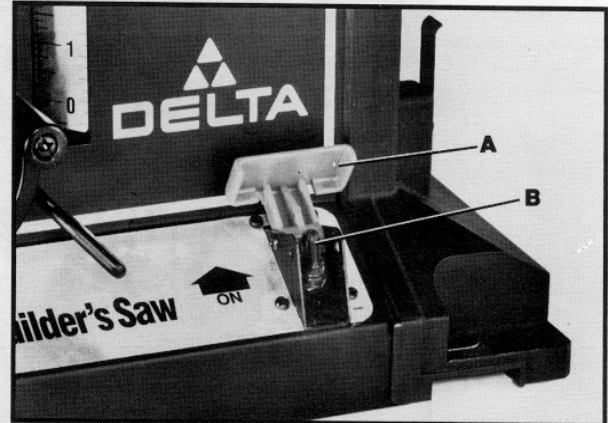

Fig. 23
2. Fig. 23, illustrates the switch trigger (B) in the "ON" position. Move the switch shield (A) down so that it rests on the switch trigger (B), while the switch trigger (B) is in the up "ON" position, as shown in Fig. 24.